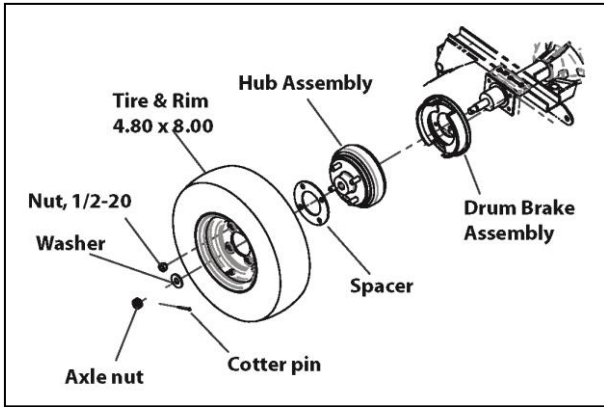

Figure 5-1
2. See Figure 5-1. Remove and discard cotter pin and axle nut. Release brake and remove, brake drum and wheel hub.